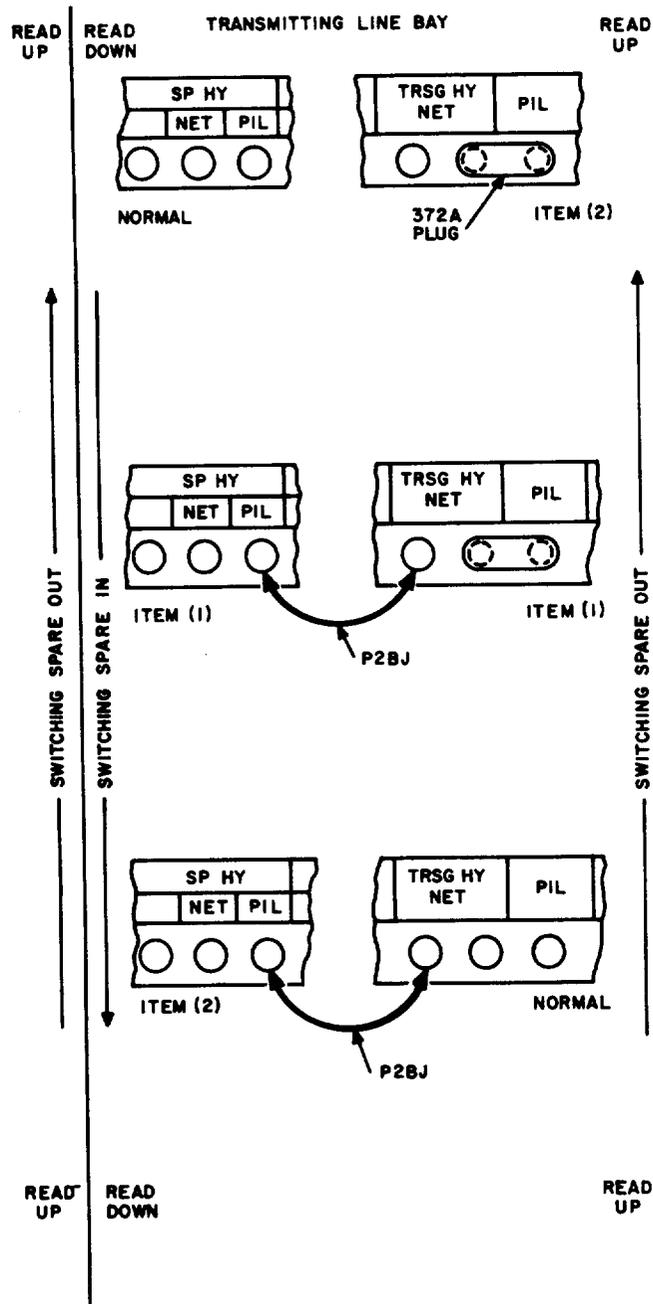

Fig. 2—L3 Line Pilot Switching—Patching Procedures
6.03 Patching from Regular to Spare L3 Line Pilot Equipment (Fig. 2):
6.04 Patching from Spare to Regular L3 Line Pilot Equipment (Fig. 2):